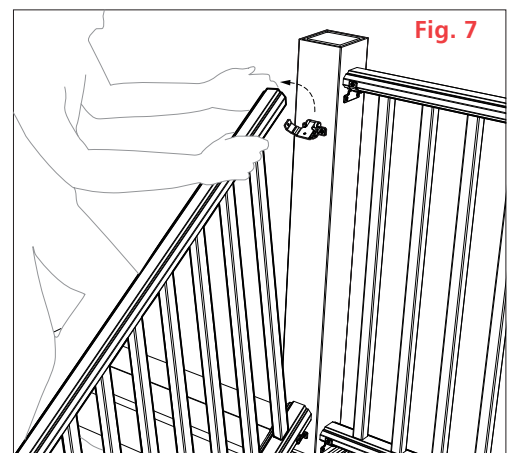

Fig. 7
- 10 Remove the brackets from rail. Tilt the rail outward from the post slightly to expose the face of the post. Reposition the top rail brackets at the marked locations on each post and install with screws provided in the Marquee Straight Bracket Kit. Use 2" screws when mounting to a wood post or the 1-1/4" screws when mounting to Marquee Post Mount. **(Fig. 7)** Repeat on post at opposite end of rail section.
- 10 Remove the brackets from rail. Tilt the rail outward from the post slightly to expose the face of the post. Reposition the top rail brackets at the marked locations on each post and install with screws provided in the Marquee Stair Bracket Kit. (Fig. 7) Use 2" screws when mounting to a wood post or the 1-1/4" screws when mounting to Marquee Post Mount. Repeat on post at opposite end of rail section.